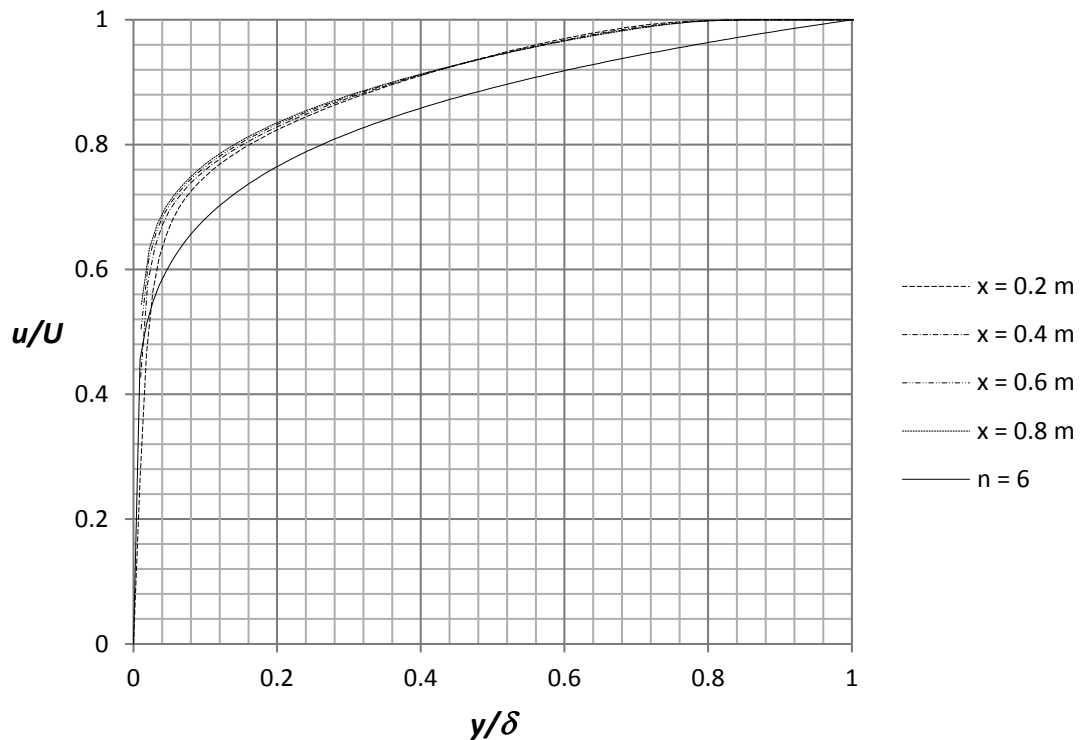

Figure 2.31 Velocity profiles compared with 1/6 power law for turbulent profile
33. Place the file “**graph 2.31**” on the desktop. Repeat step 24 and choose the sketch  $x = 0.2, 0.4, 0.6, 0.8$  m and check the box for **Velocity (X)**. Rename the xy-plot to **Comparison with One-Sixth Power Law**. An Excel file will open with Figure 2.31. In figure 2.31 we compare the results from Flow Simulation with the turbulent profile for  $n = 6$ . The power-law turbulent profiles suggested by Prandtl are given by